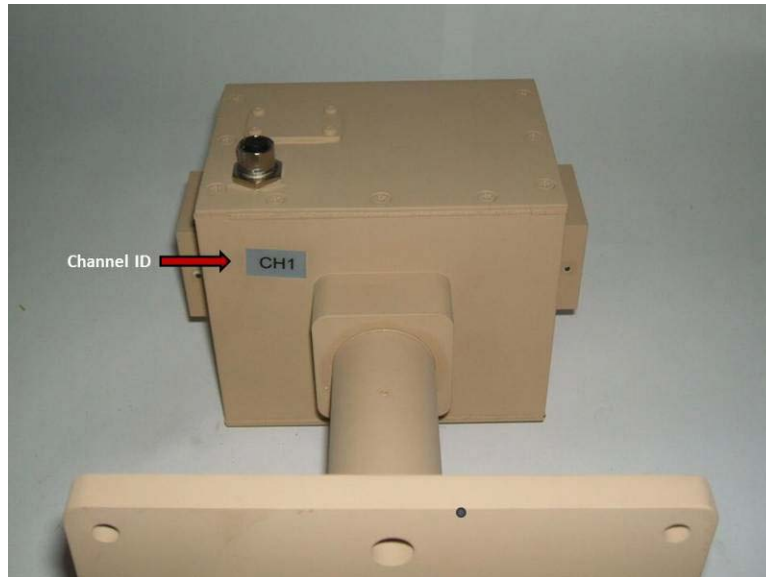

Figure 3: Low Profile Pan Tilt Unit Channel ID Number
Connecting the Low Profile Pan Tilt unit to the base station consists of three steps: (1) connecting the Low Profile Pan Tilt Unit to the corresponding channel on the DOG Base Station VPD using CAT-5 cables, (2) connecting the VPD channels to the corresponding channels on the Base Station DVR, and (3) connecting the Pan Tilt port on the VPD to the appropriate port on the Base Station DVR (depending on DOG version). The Low Profile Pan Tilt Unit channel IDs are provided on a decal on the bottom of the unit as seen in Figure 3. The figure below shows the described connections with all channel numbers. Even if only one or several Low Profile Pan Tilt Units are employed, the channel numbers should always match up as shown.